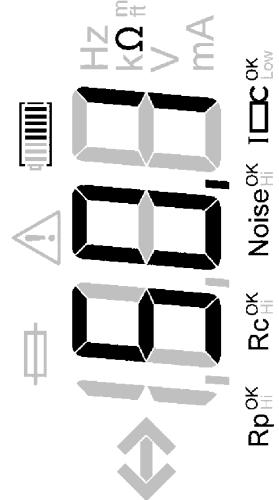

Figure 11. Three point resistance reading using ART
5. A resistance measurement reading is displayed as shown in Figure 11.